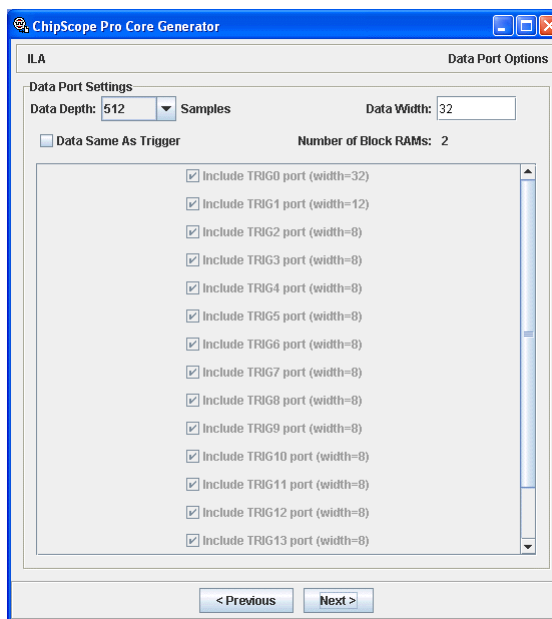

Figure 2-9: ILA Core Data Port Options
After you have set up the ILA core trigger port options, click **Next**. This takes you to the fourth screen in the Core Generator that is used to set up the of the ILA core data port options (Figure 2-9).
- **Data Separate from Trigger (Figure 2-9, page 2-13)**